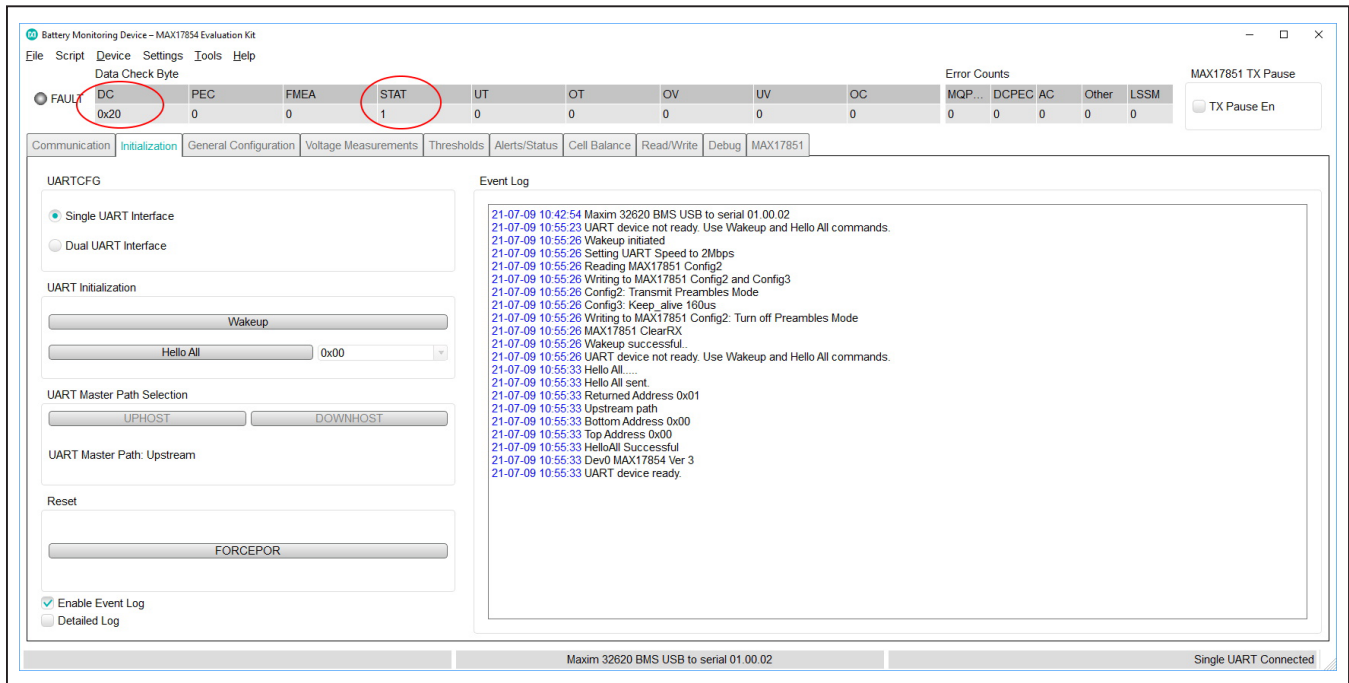

Figure 14. Initialization Tab
- 10) Select the **Initialization** tab (Figure 14).